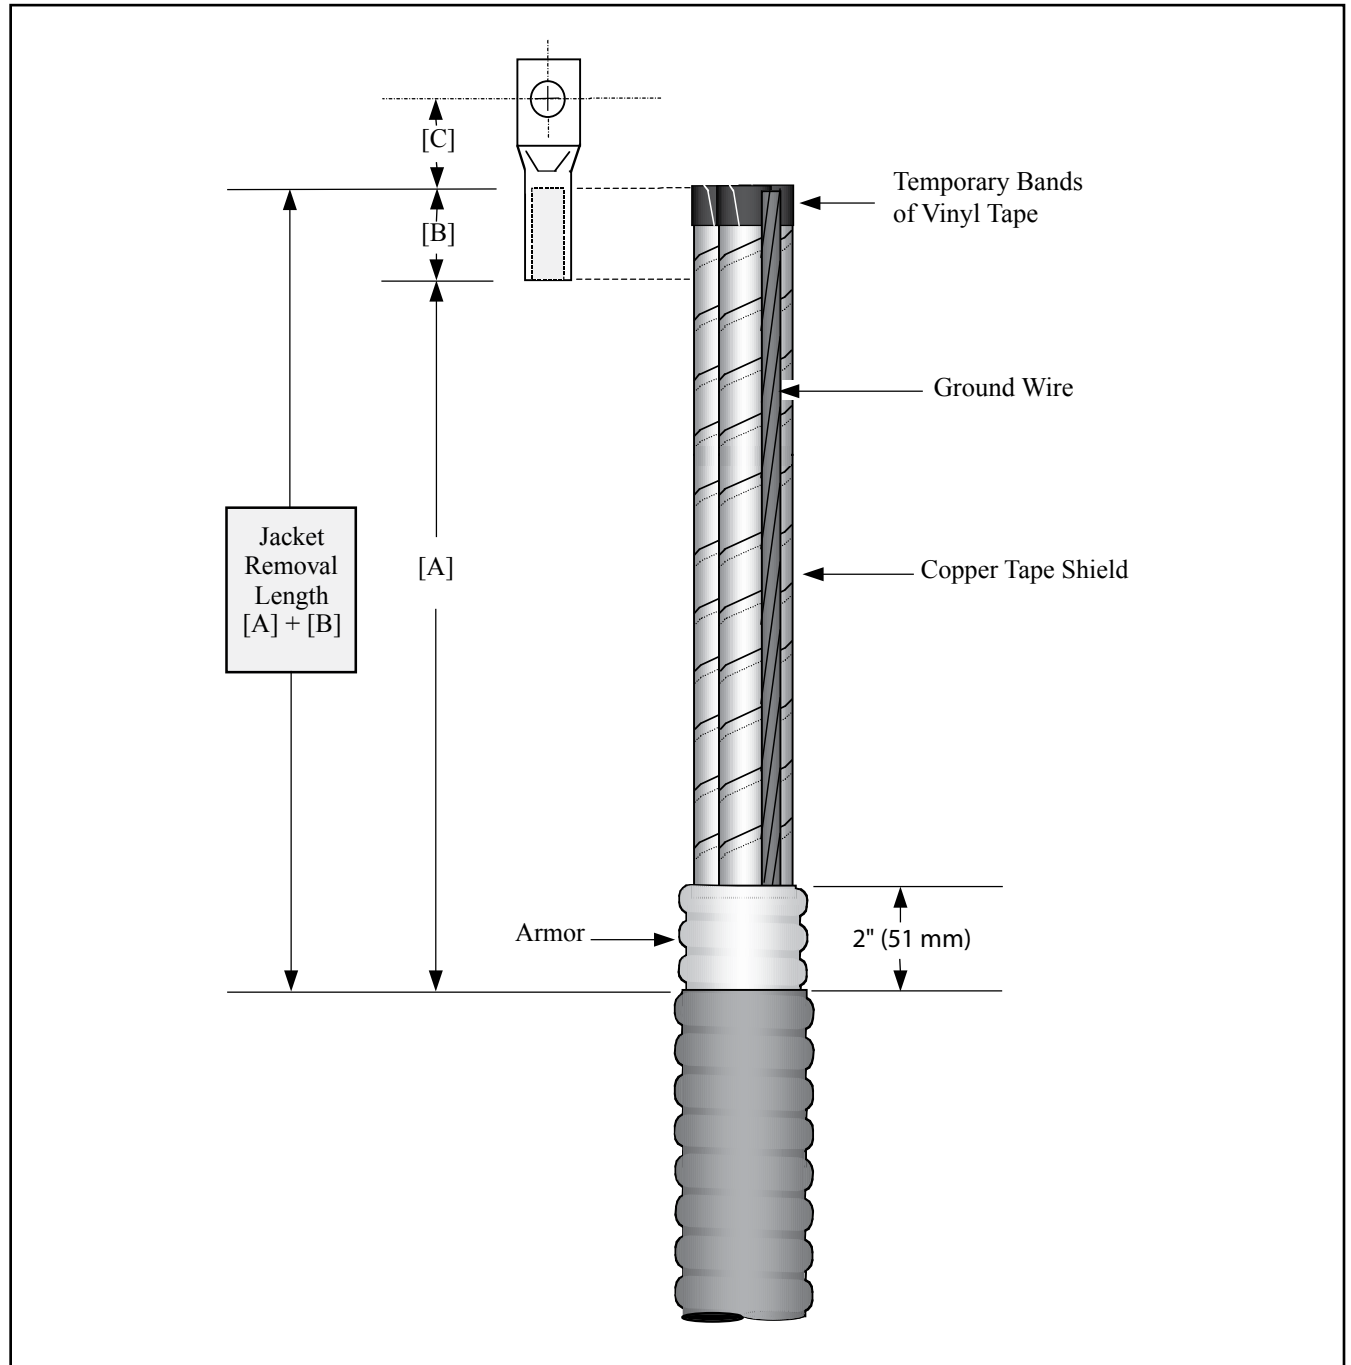

Figure 1
- 1.1 Determine cable jacket removal length required for correct phase spacing and bolted terminal lug connections ([A] + [B] Figure 1; based on the longest phase to be connected). Allow for dimension [C] as needed.
- 1.2 Remove cable jacket, armor, bedding (inner sheath) and core fillers according to Figure 1 dimensions. Secure each copper tape shield end with a temporary band of vinyl tape (Figure 1).